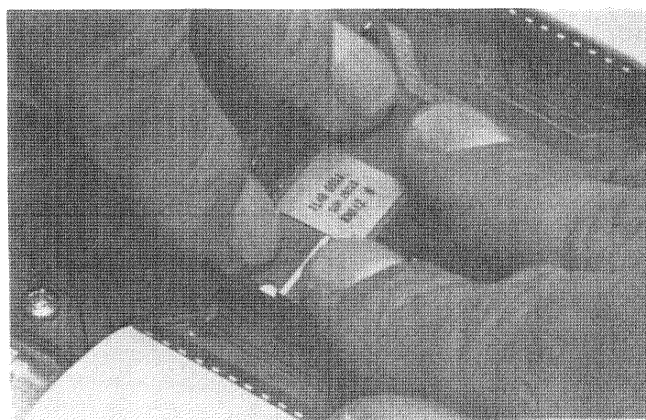

Figure 2-6. Pressing IC Into Socket
- c. Press down evenly along both sides of the IC until it snaps secured in the socket. (See figure 2-6.) When the IC is properly inserted, both sides of the IC should be the same height above the socket.